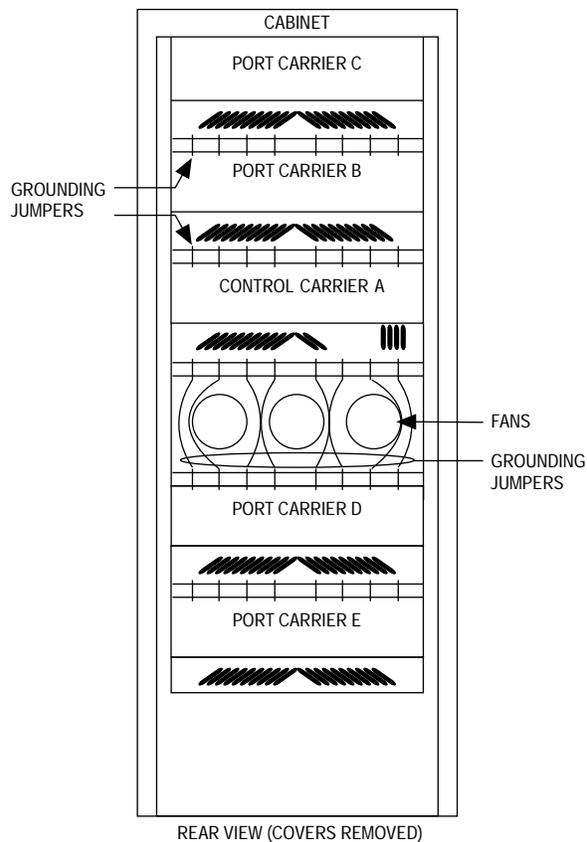

Figure 3-46. R1V3 System Cabinet
2. Disconnect the AHF4 cable adapter from behind slot "07" of control carrier "A" (see Figure 3-46).